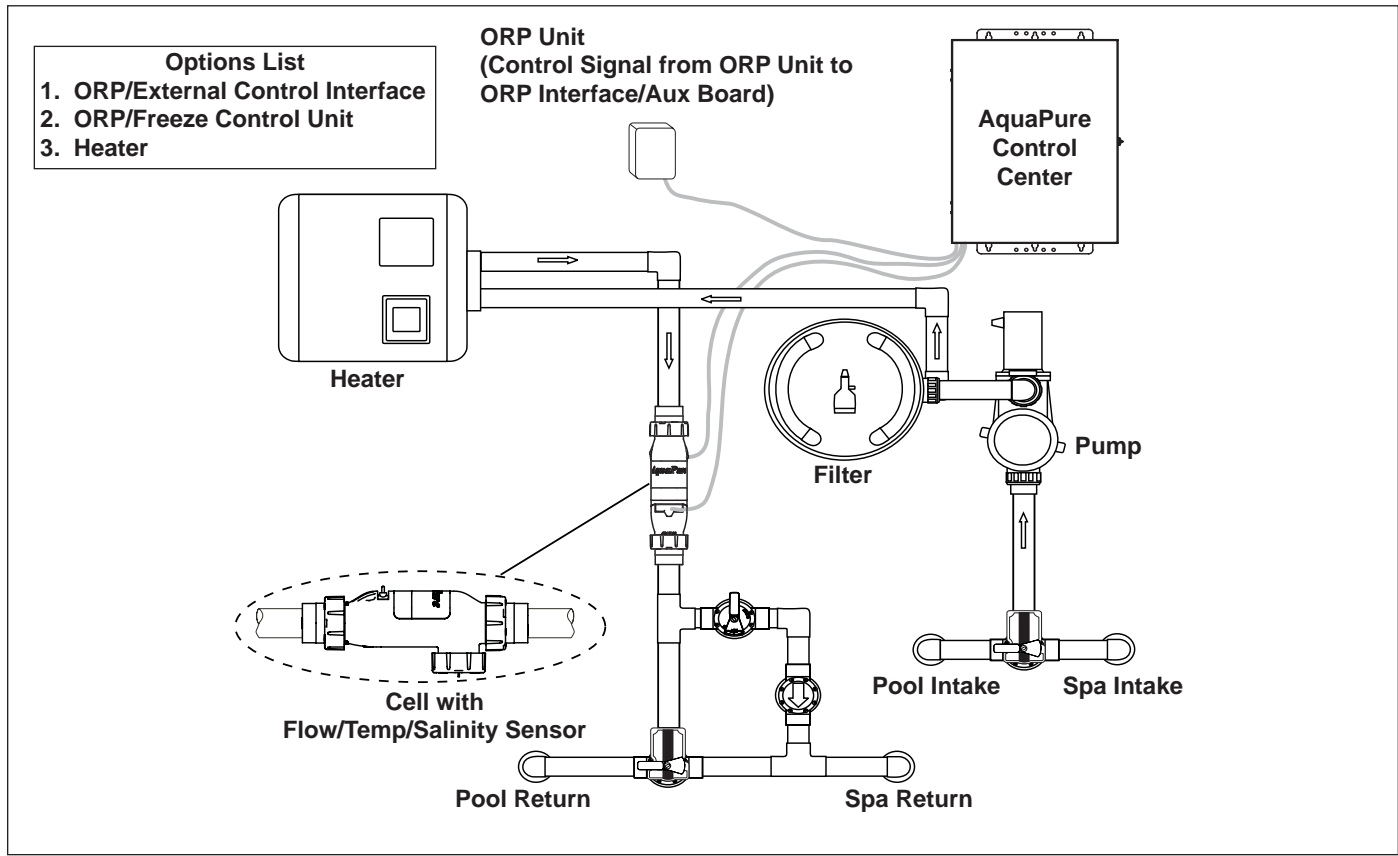
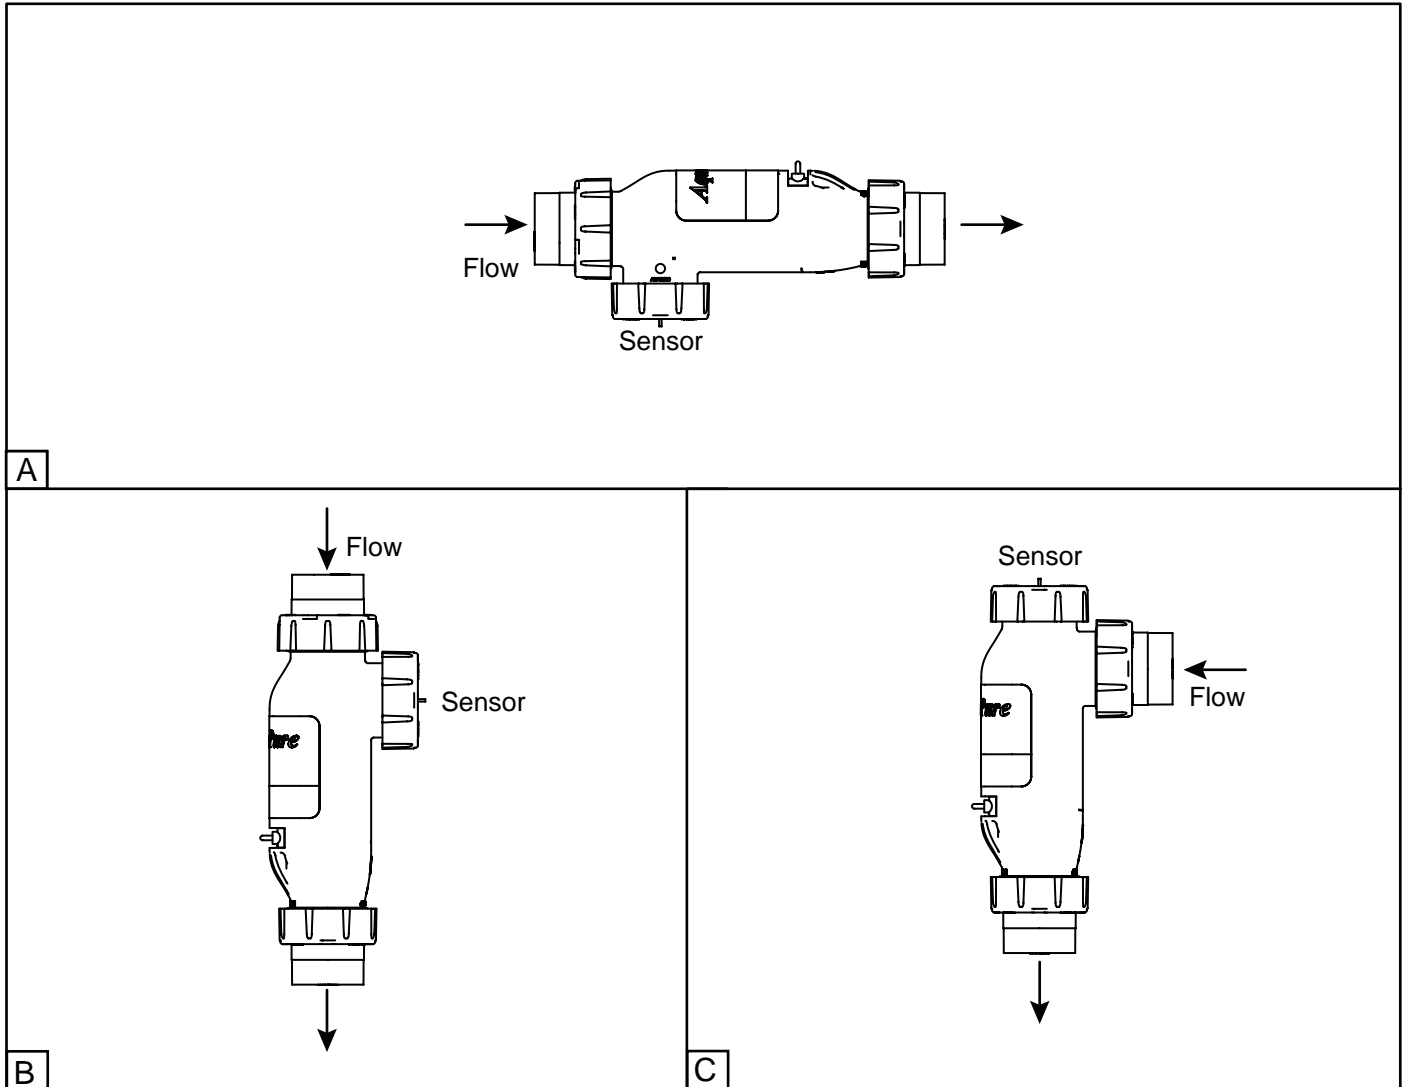
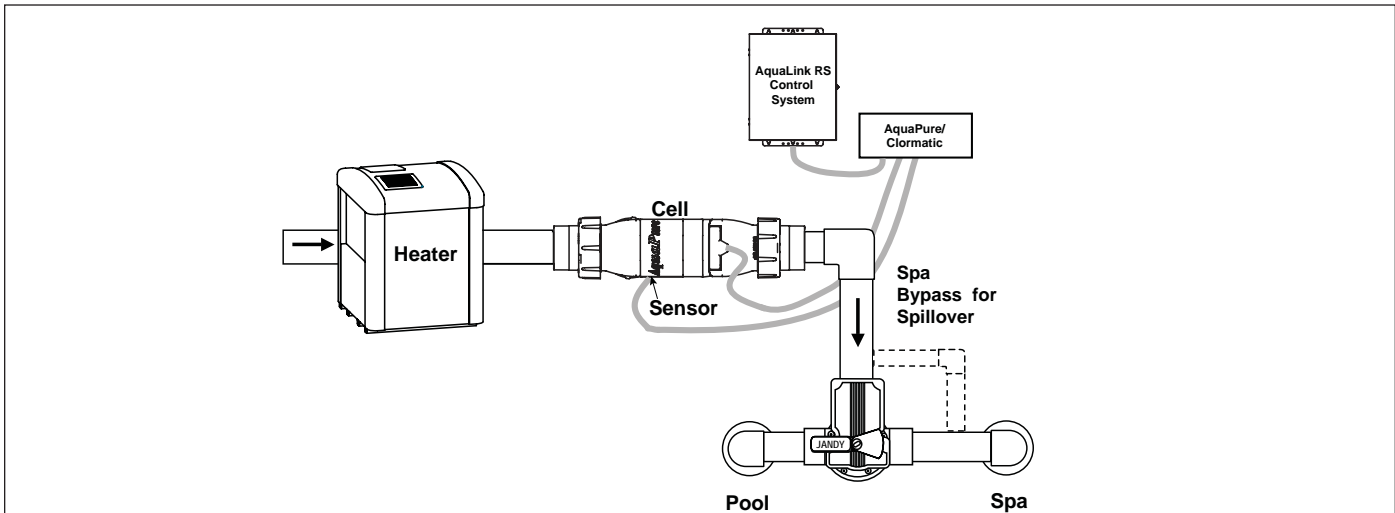

Figure 1. Typical AquaPure Installation With Options
Figure 3. Chlorine Generator Cell and Sensor Orientation with Flow Direction
Figure 4. Recommended Plumbing Configuration for Pool/Spa Combination Systems
It is recommended that the water Flow/Temp/Salinity Sensor is installed in the same piping as the electrolytic cell, without any valves or diverters between them. (See page 5 Figure 1).
The preferred installation is that the Cell and Sensors are plumbed in the return line to the pool after (downstream of) all the pool equipment (filter, heater, solar, etc.). The Cell and Sensor fitting are designed to be plumbed into 2" PVC pipe. Adapters can be used for systems with 1½" plumbing. Figure 3 shows cell and sensor configuration with flow direction. Figures 4 and 5 illustrates the recommended plumbing configurations, which result in the most reliable operation.
2. It is recommended that the Flow/Temp/Salinity Sensor and Electrolytic Cell be installed in the pool return line after the filter and heater. The Cell can be installed in either a horizontal (as shown in Figure 3) or a vertical position.
3. Position the Flow/Temp/Salinity Sensor and Cell in the recommended position (see page 8 Figure 3, page 9 Figures 4 and 5, and page 5 Figure 1).
4. Locate a suitable section of pipe, approximately 17 inches (432 mm) long or follow the recommended plumbing diagrams beginning on page 9, Figures 4 and 5. The Flow/Temp/Salinity Sensor cable and Cell DC cord ***must*** be able to reach from the control center to this section.